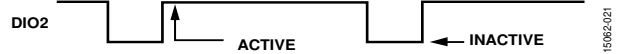

Figure 25. Data Ready, when FNCTIO_CTRL, Bits[3:0] = 1101 (Default)
The factory default configuration provides users with a data ready (DR) signal on the DIO2 pin, which pulses low when the output data registers are updating (see Figure 25). In this configuration, connect DIO2 to an interrupt service pin on the embedded processor, which triggers data collection, when this signal pulses high. Register FNCTIO_CTRL, Bits[3:0] (see Table 144) provide some user configuration options for this function.